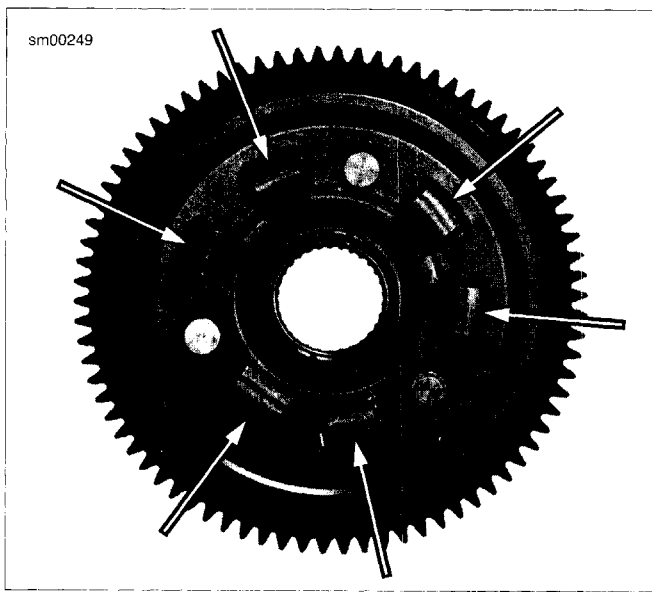

Figure 5-28. Compensating Spring Set
5. See Figure 5-28. Inspect the clutch shell compensating spring set.